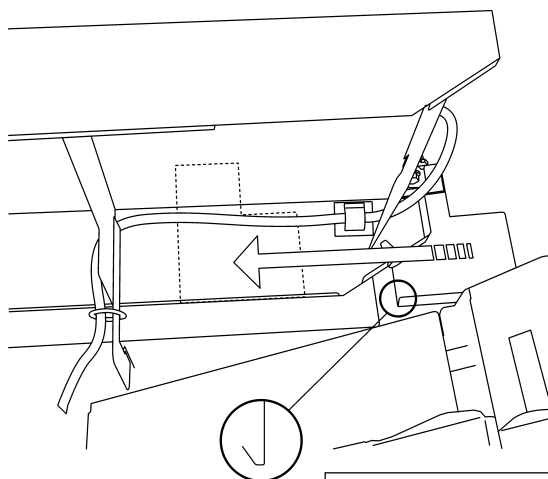

Figure 2, Top view
5. Make sure that the Top cover is open. Take the Rear Installation Bracket, item 6 page 1.1, and slide it between the Top cover and the Rear frame of the Booklet maker. Slide it from right to the left, according to figure 2.